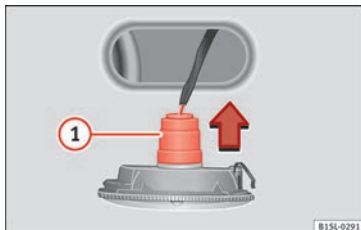

Fig. 93 Side turn signal: Changing the bulbs.
3. Remove the bulb holder with the bulb in the direction of the arrow » **Fig. 93 ①**.